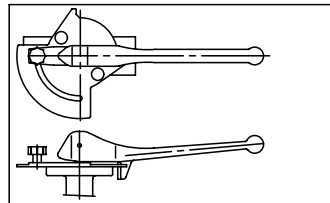

FIG. 3: LEVER FOR REGULATING
- Special notch plate for regulating purposes (figure 3)